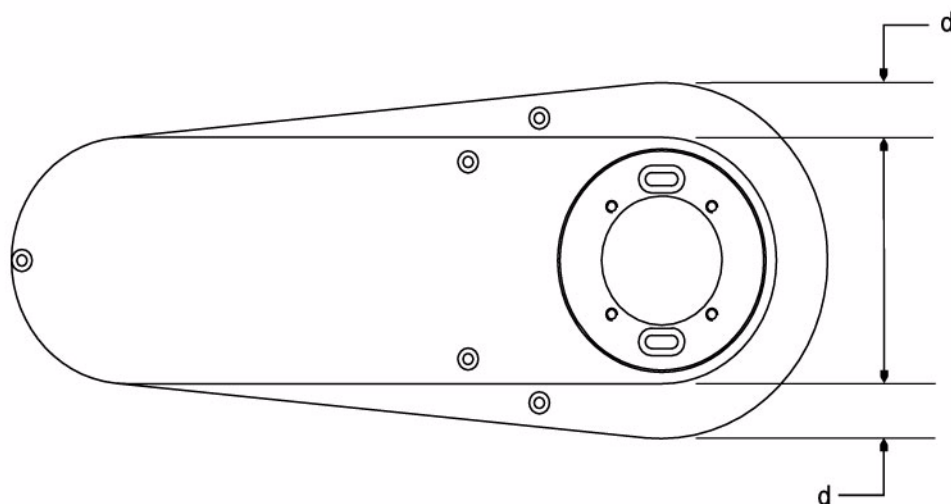

Figure 7-3: Center Overlapping Position (COP)
2. Restrain the arm into a COP position and then press Enter. Refer to Figure 7-3.
3. Do the Home Offset correction by moving the Radial arm links center over center as shown in Figure 7-3.